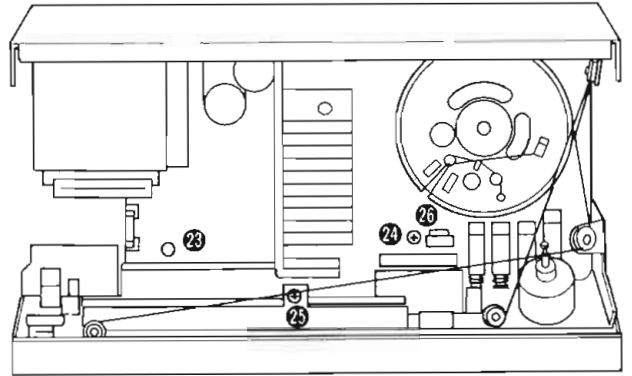

Fig. 6
5. Remove the 3 setscrews (Fig. 6 : **23** ~ **25**) and 1 connector (Fig. 6 : **26**)